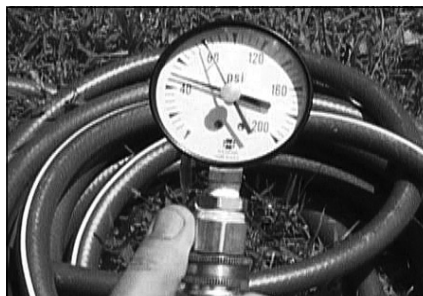

Figure 4 - Use a Water Pressure Gauge to make sure your home's water pressure is not too high.
- Water Pressure Gauge (Figure 4)
We recommend checking your home's water pressure with a pressure gauge (Figure 4.) Most codes allow a maximum incoming water pressure of 80 psi. We recommend a working pressure no higher than 50-60 psi.